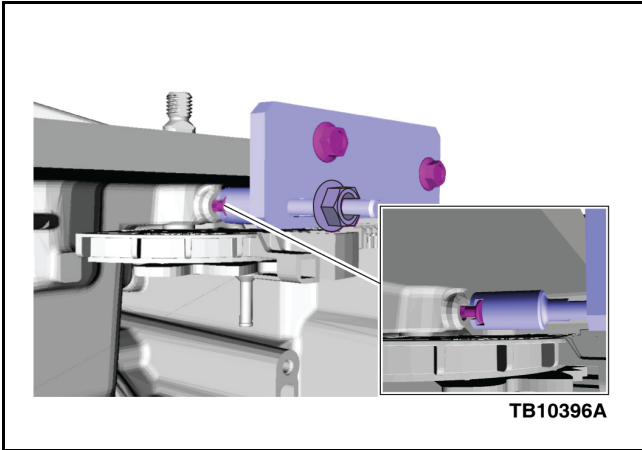

Figure 2 - Article 13-5-27
- b. Attach ESST 307-696 to the transmission case with two (2) pan bolts.
- c. Slide the cylinder over the head of the retaining pin and tighten the nut on the threaded shaft to pull the cylinder up and retaining pin out of the transmission case. (Figure 2)